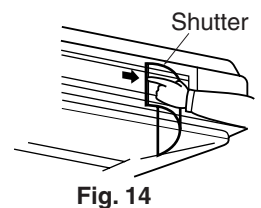

Fig. 14
- Air flow rate can be changed by sliding the shutter. (Refer to Fig. 14)